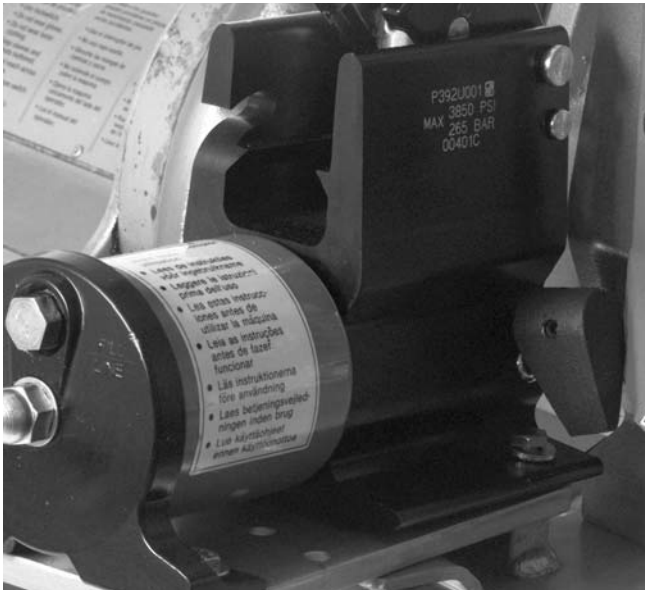

Figure 9 – Close-Up of Release Lever on 918 Pump
2. Raise upper groove roll housing by placing pump release lever in RETURN position (away from operator). (Figure 9)